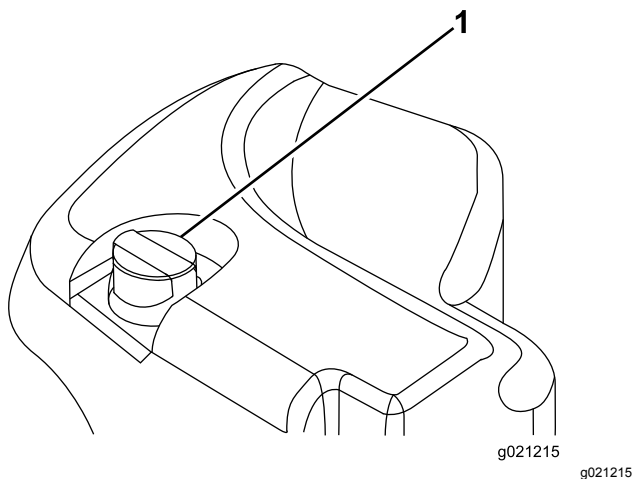

Figure 101
2. Clean the area around the filler neck and cap of the hydraulic tank (Figure 101). Remove the cap from the filler neck.